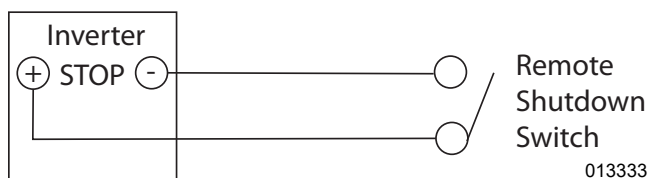

Figure 5-4. PV Only Remote Shutdown Switch Wiring
3. See Figure 5-4. Use 20 – 14 AWG two-conductor cable with insulation rated for 600 V to connect a switch that is lockable, UL listed, and rated for at least 12 VDC, 5mA (consider a standard single-pole light switch in a weather proof box with a lockable lever).